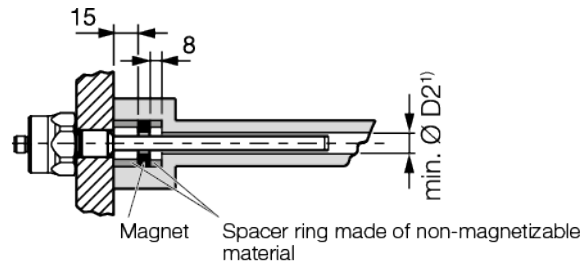

Fig. 2: Installation in magnetizable material
1. Make a mounting hole with thread (possibly with countersink for the O-ring) acc. to Mounting hole figure 1 or Mounting hole figure 2.